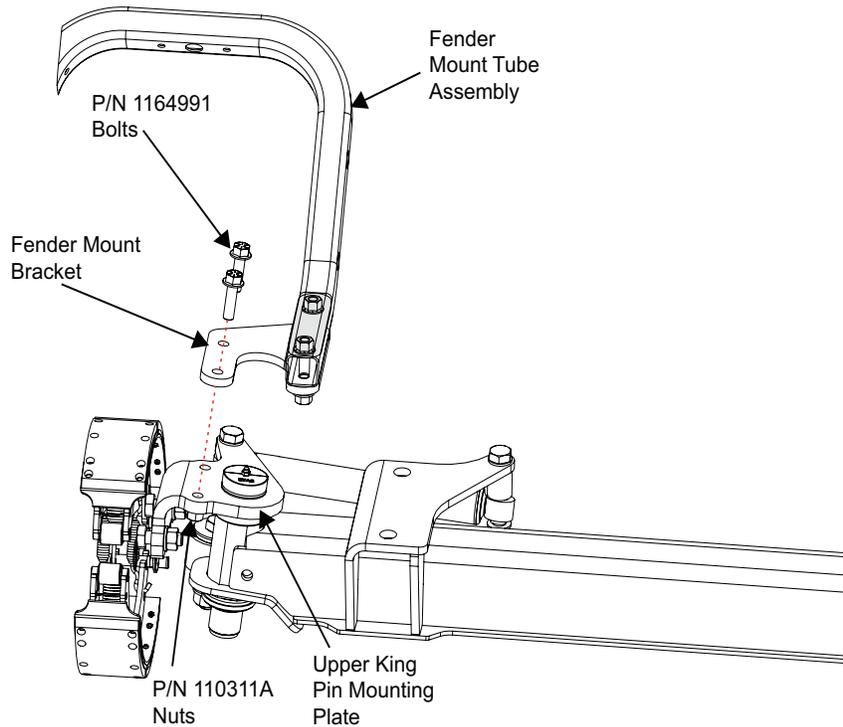

Figure 6: Align the fender mount tube assembly/fender mount bracket to the upper king pin mounting plate.
6. Bolt the Bridgemaster Fender Mount Assembly to the Upper King Pin mounting plate using P/N 1243784 bolts. **See Figure 6.**